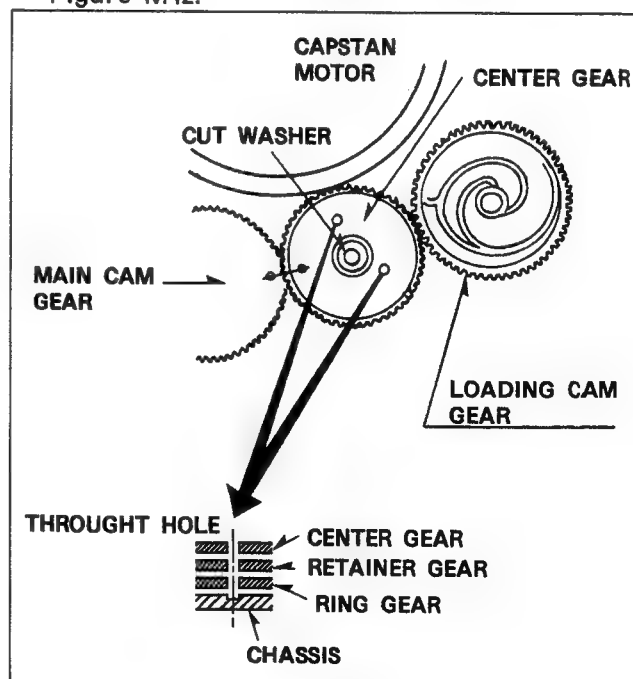

Figure M42
1. Install the Retainer Gear onto the Ring Gear so that the two holes on the Retainer Gear align with the two holes on the Ring Gear, at this time, small hole on the Main Cam Gear should align with small hole on the Retainer Gear as shown in Figure M42.
2. Install the Loading Cam Gear so that the small hole which is directly outside of the large hole on the Loading Cam Gear is aligned with the outside hole of the Retainer Gear as shown in Figure M42.